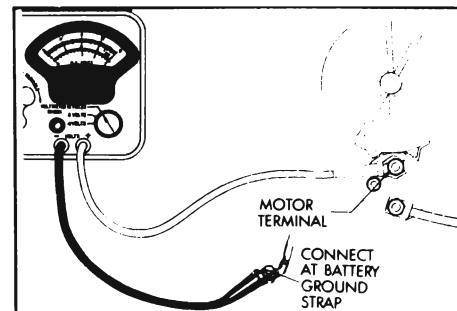

Figure 10-31—Cranking Voltage Test Connections
3. Connect voltmeter positive (+) lead to the motor terminal on solenoid switch; connect voltmeter negative (-) lead to ground on engine. See Figure 10-31.